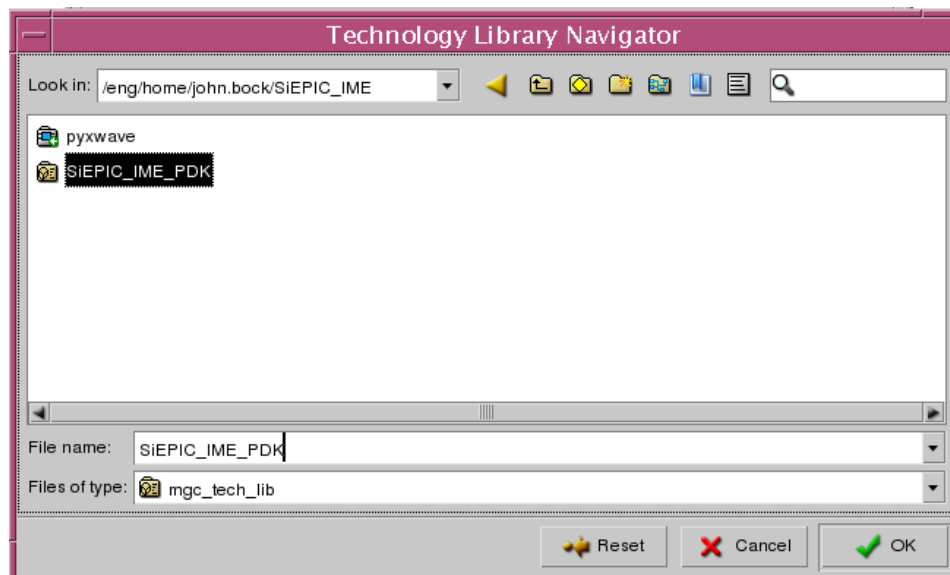

Figure 7: Technology Library Navigator Dialog Box
- b. In **Technology Library Navigator**, navigate to the PDK directory `/SiEPIC_IME` then select `SiEPIC_IME_PDK` (see Figure 7).